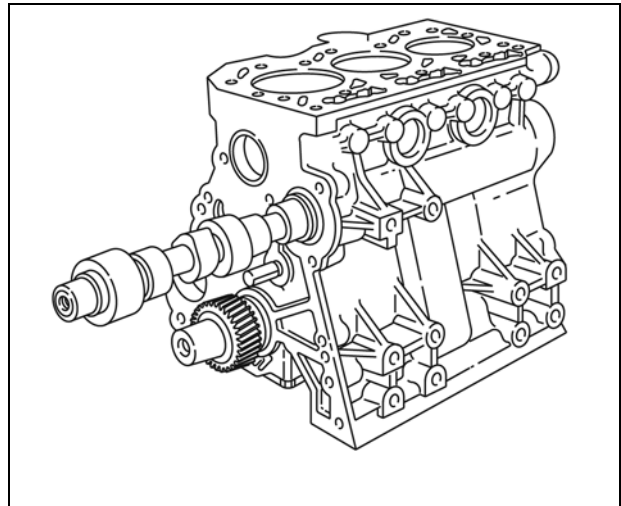

Figure 4
7. Remove camshaft (Figure 4).